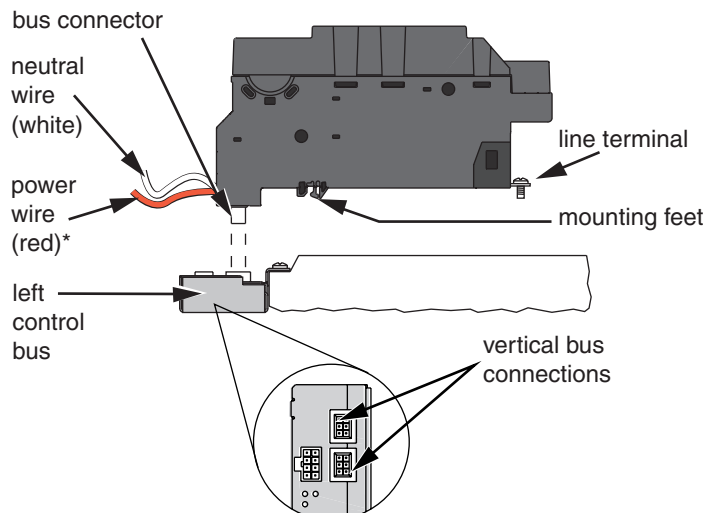

Figure 1: Power supply installation
3. Insert the power supply's bus connectors into the vertical bus connections on the left control bus (see Figure 1).